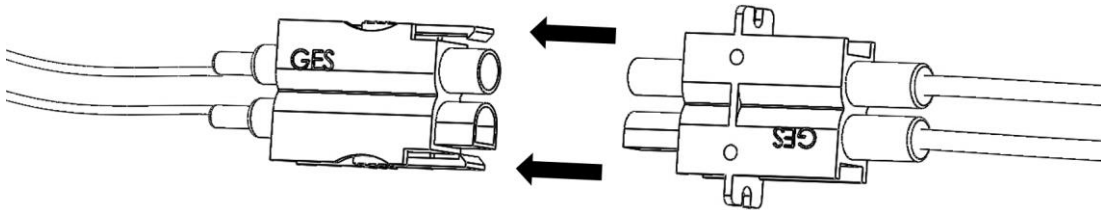

Figure 12: HV connector of the ion source cables and the HV cables of the control unit.
- Connect the ion source with the control unit using the supplied cables (Fig 12). Make sure the control unit is turned off before plugging in the high voltage cables.